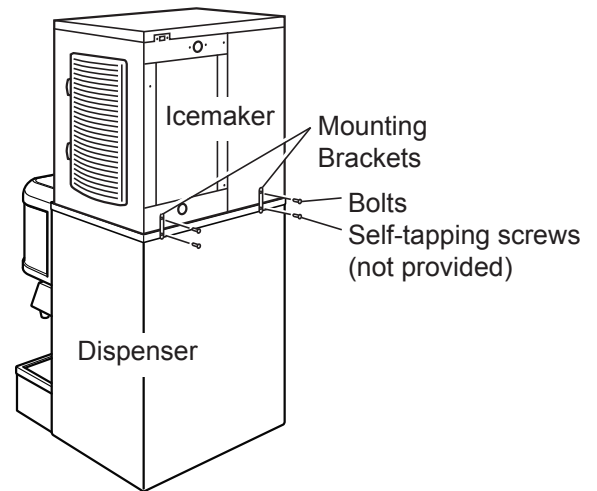

Fig. 2c
- 6b) **Dispenser Unit:** Follow the dispenser unit, adapter kit, or top kit instructions for securing the icemaker. If no instructions are available, secure the icemaker using the mounting brackets provided. Rotate the mounting brackets so that they fit flush to the dispenser unit. See Fig. 2c. Secure the mounting brackets to the icemaker with the bolts provided. Secure the mounting brackets to the dispenser unit with self-tapping screws (not provided). **NOTICE!** Use care to avoid damage to dispenser unit components when attaching the mounting brackets.